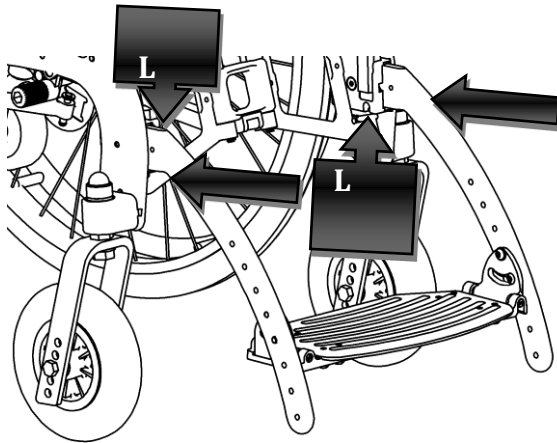

Figure 2
Once opened the frame, you need to assemble the footrest. To mount the footrest introduce it in the appropriate housing as shown in Figure 2.
To remove the footrest unlock them by turning the lever (L) shown in Figure 2 and pull them.